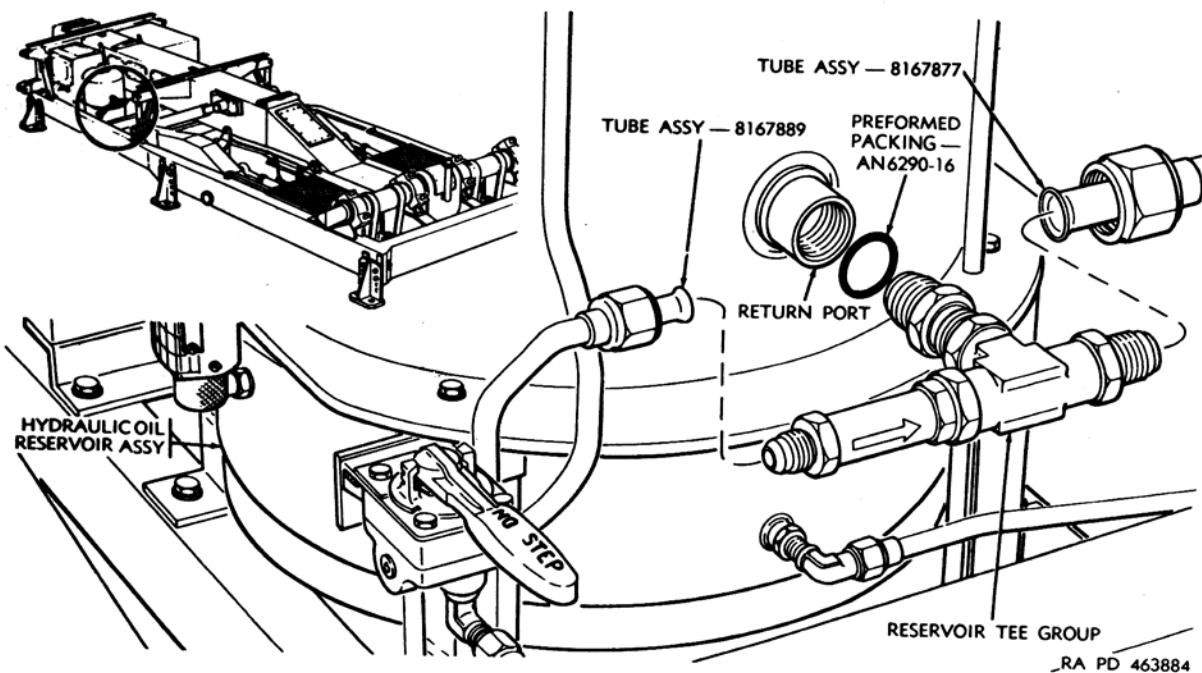

Figure 167. Reservoir tee group - removal and installation.
- (d) Remove reservoir tee group (fig. 167).
- (c) Install reservoir tee group (fig. 167).
- Disconnect tube assembly—8167889 (fig. 167) and remove tube assembly—8167877.
(4) Installation.
- (a) Install tee group (fig. 167) on hydraulic oil reservoir assembly and connect and install two pipe assemblies. Torque coupling nut on pipe assembly - 8167889 to 500 pound-inches and 8167877 to 1450 pound-inches.